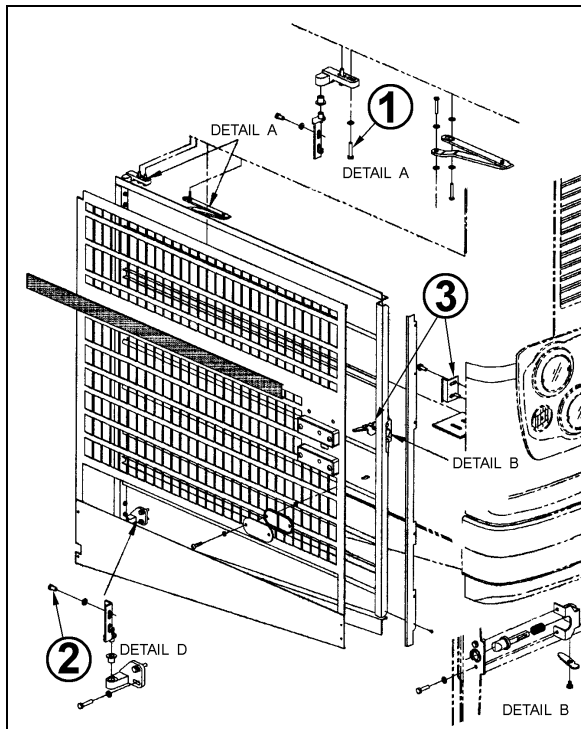

FIGURE 72: RADIATOR DOOR
- Loosen the bolts, (1, Fig. 72) holding the hinge to the vehicle structure to shift the door "IN or OUT" and "UP or DOWN".
- Loosening the bolts (2, Fig. 72) allows the door to be shifted "LEFT or RIGHT" and "UP or DOWN".
To adjust the latch mechanism (3, Fig. 72) and the striker pin: